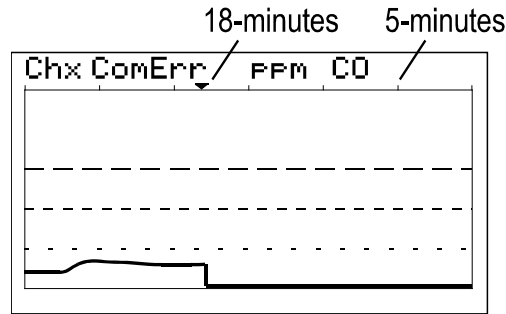

Figure 5.4
- **Communications Error** – Each channel's 30-minute trend screens (Figure 5.4) are very useful for diagnosing wireless problems since it indicates amount of time since the most recent transmission was received. The down arrow on top of the trend screen resets to far right each time a transmission is received by that channel. When not in alarm, ST-48/RFs transmit each 5-minutes so the arrow should never progress past the 5-minute interval. The ST-90 activates the channel's **FAULT** alarm and indicates **ComErr** if no transmission has been received in 18 consecutive minutes.